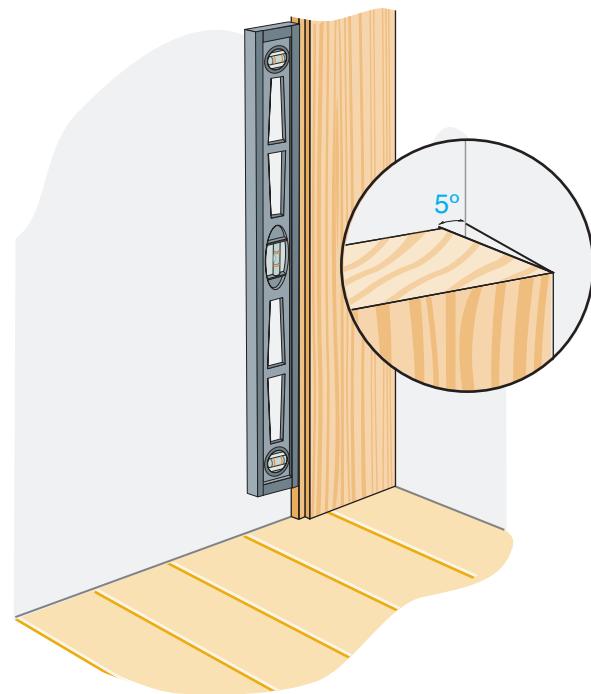

Figure 28-13 Setting the First Board
2. If the corner is not straight or plumb, you will have to scribe the board to fit. Undercut the edge about 5° to ensure a snug fit, as shown in **Figure 28-13**.